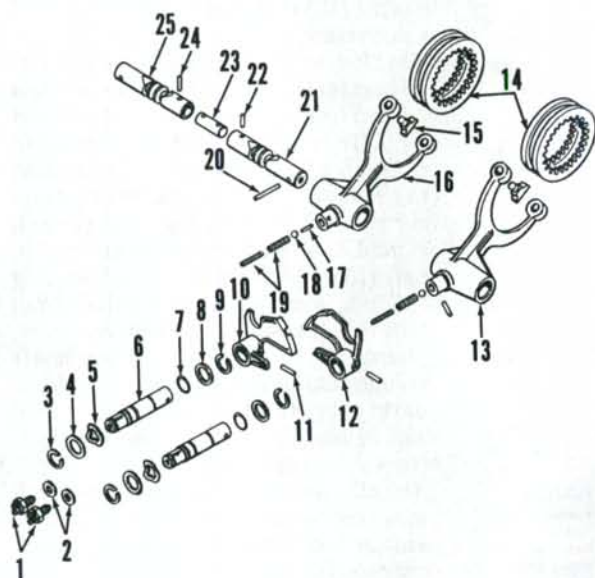

Fig. 175—Exploded view of shifter forks and shafts of gear transmission used on power shift Models 2090, 2290, 2094 and 2294.
and cable bracket. Refer to Fig. 175 and drive out detent roll pins (17) from both forks (13 and 16), then remove detent springs (19) and balls (18). Engage park lock, fully clockwise, then drive roll pin (20) out of shift rail (21) and shift rail bore in transmission. Disengage park lock, fully counterclockwise, put transmission in first gear by sliding rear shift fork (16) rearward. Rotate shift rail until roll pin (24) can be driven out of shift rail. Separate shift rail and push rear rail section (25) rearward out of shifter fork (16), then remove shifter
To remove shifter shafts (items 3 through 12), hydraulic inlet screen must be removed as outlined in paragraph 250. Remove outer shift levers from four-speed transmission. Remove snap ring (3—Fig. 175) from shifter shaft (6). Remove flat washer (4) and wave washer (5). First remove shifter shaft and shift fork lever (12) for third and fourth gear, then remove shifter shaft and shift fork lever (16) for first and sec-